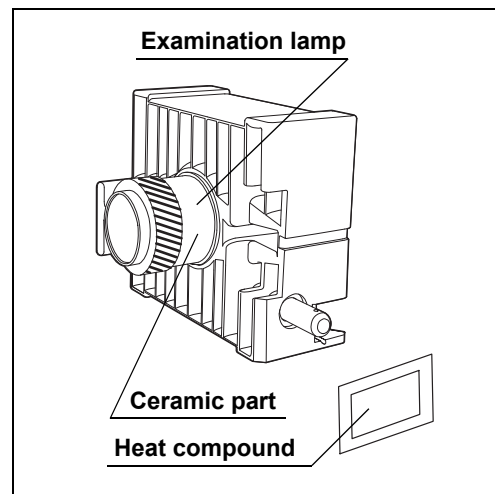

Figure 6.10
- 4 Using your finger, apply the heat compound thickly and evenly on the outer periphery of the “–” side electrode of the examination lamp (see the shaded section in Figure 6.10).